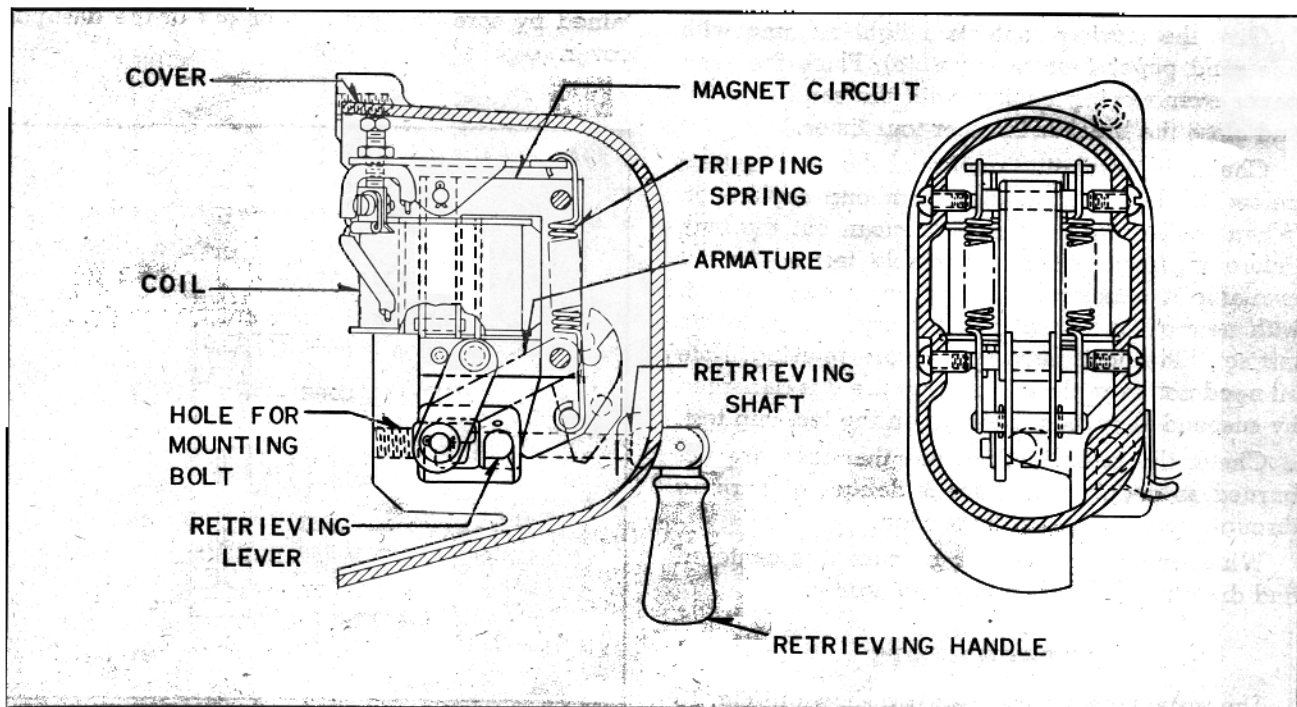
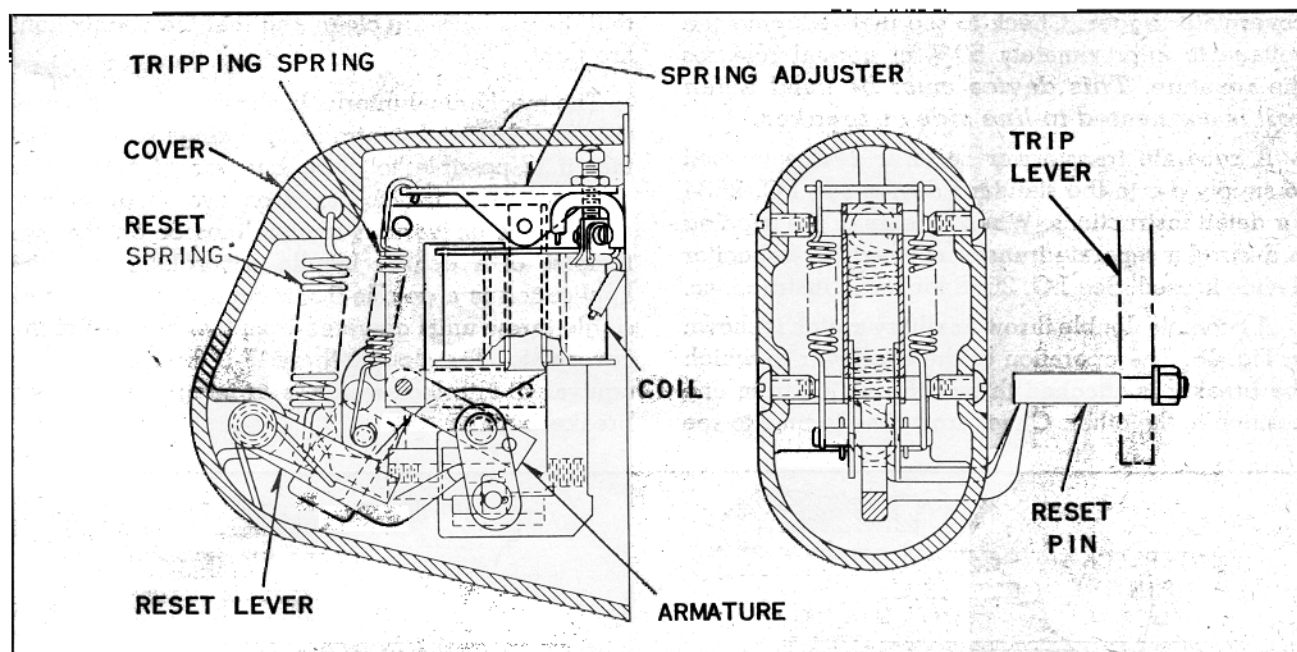

FIG. 17. Hand Retrieve Undervoltage Trip
FIG. 17A. Automatic Retrieve Undervoltage Trip
4. If manual retrieve undervoltage (Fig. 17) is furnished, mount it on left hand coverplate bolt. The automatic retrieve undervoltage (Fig. 17A) is mounted on right hand coverplate bolt.